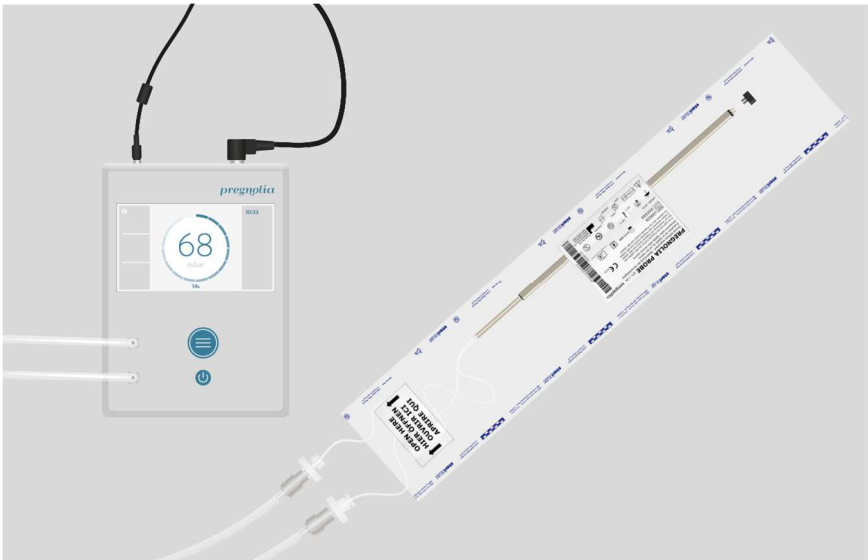

FIGURE 15: Step 3. Connect the *filters* to the *connector cable*, while leaving the *probe* inside the *sterile pouch*.
- 3) Connect the *filters* to the *connector cable*, while leaving the *probe* inside the *sterile pouch* (FIGURE 15).